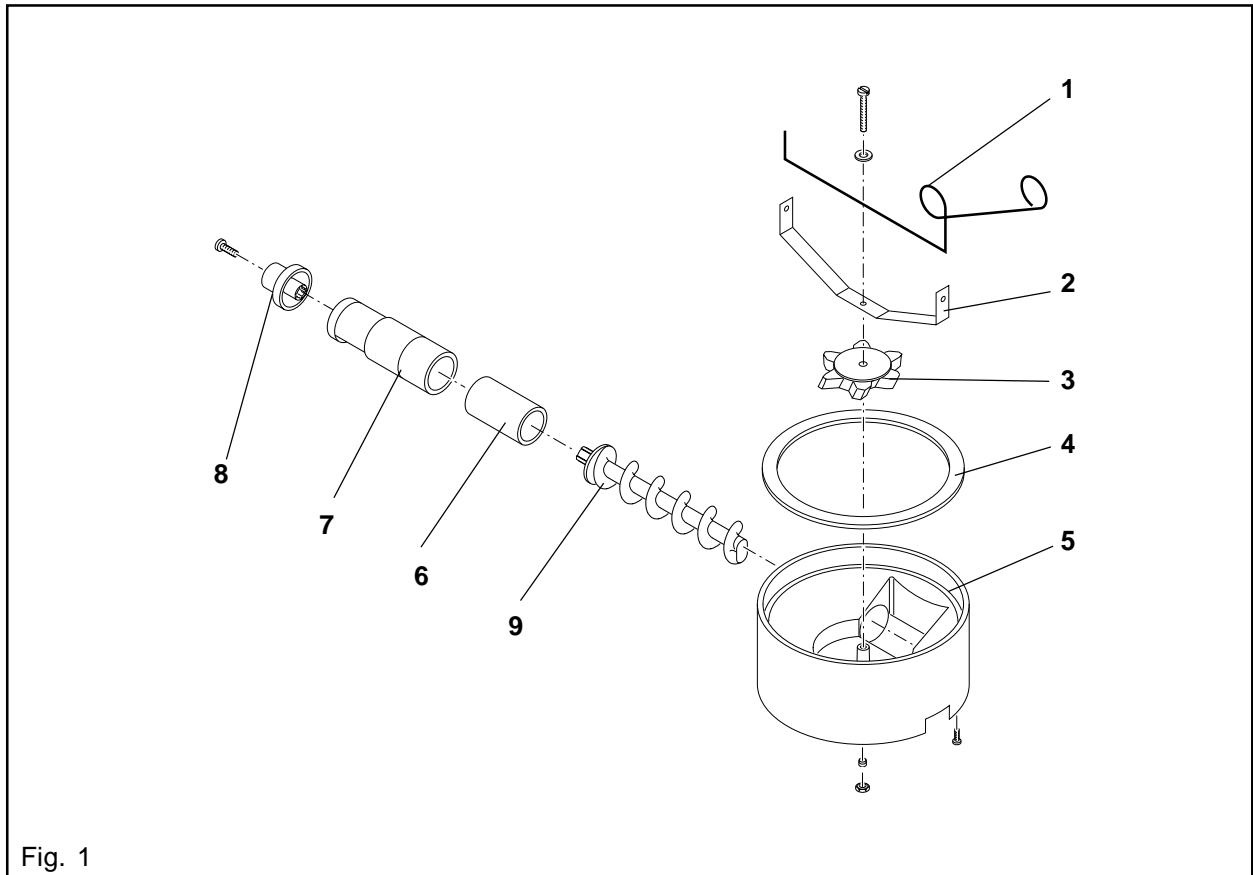

Fig. 1
Legend for Fig. 1:
- Push the lock mechanism (2) on the container console down, then remove the product container (1) to the front and empty it. (Fig. 1)